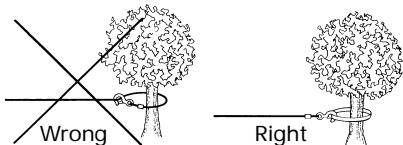

Figure 3
- 8. NEVER HOOK THE WIRE ROPE BACK ONTO ITSELF.** Use a nylon sling (Superwinch Part No. 1509). Hooking the wire rope onto itself can damage the rope (Figure 3).